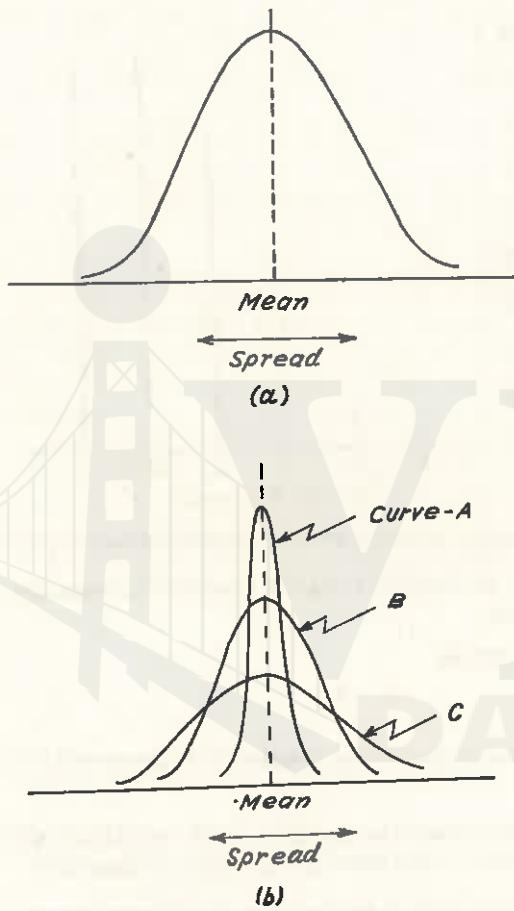

Fig. 8.3 (a) Normal Distribution Curve.
- Fig. 8.3 shows a normal distribution. The diagram indicates its several important characteristics :
- (1) The curve has a single peak.
- (2) It is bell shaped.
- (3) The mean (average) lies at the center of the distribution and; the distribution is symmetrical around a vertical line erected at the mean.
- (4) The two tails of the normal distribution extend indefinitely and never touch the horizontal axis.